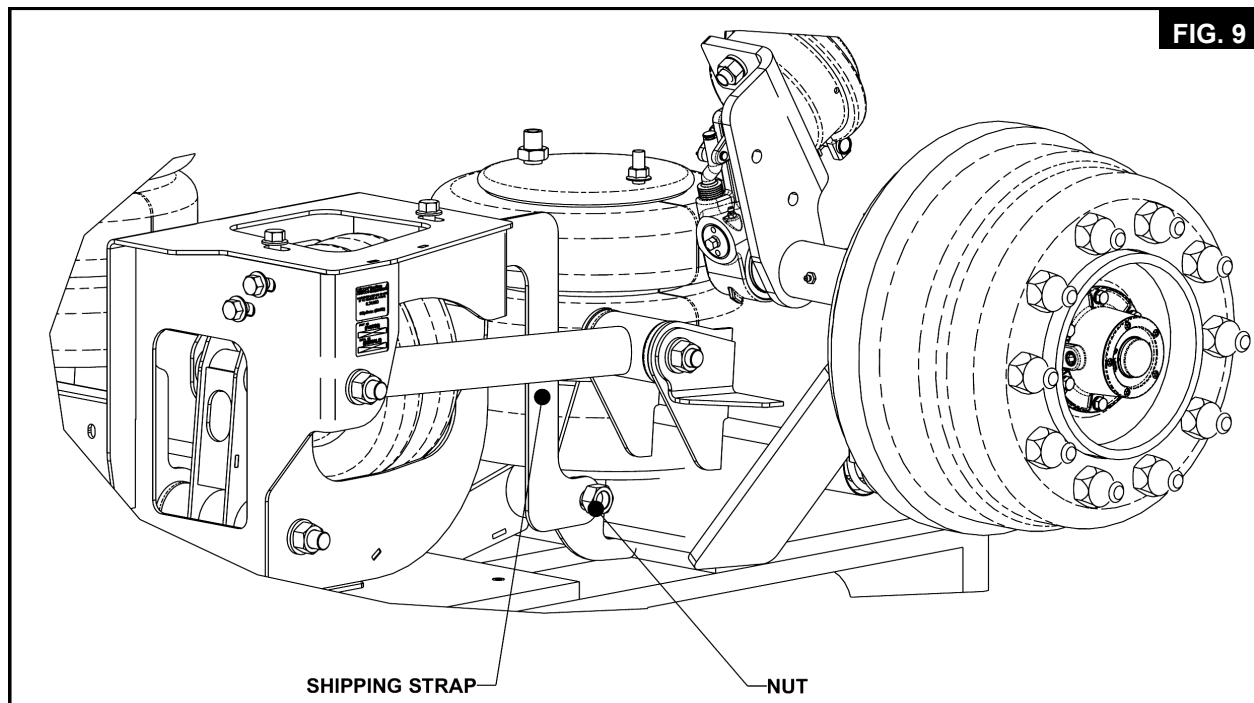

FIG. 9
- ☐ Are both shipping straps and extra nuts removed? (see **Fig.9**)